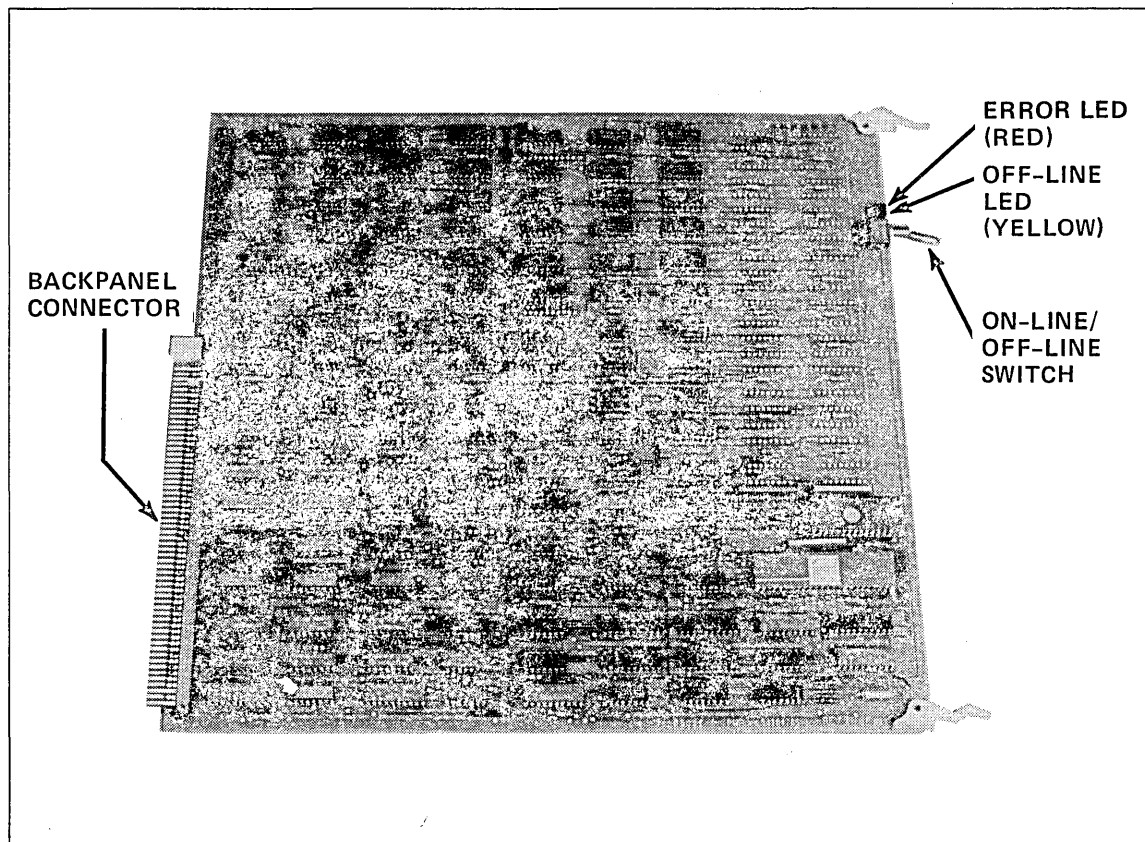

Figure 1-24. SMM Board
1. Unpack the SMM board (shown in figure 1-24), the equipment identifier label, and the FCO label.